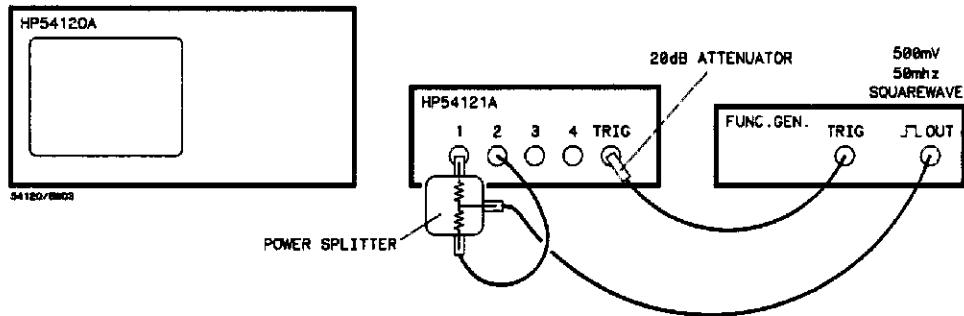

Figure 12-2. Equipment Configuration
- Connect the output of the function generator to channel 1 and 2 with the power splitter. (See figure 12-2 on next page.)